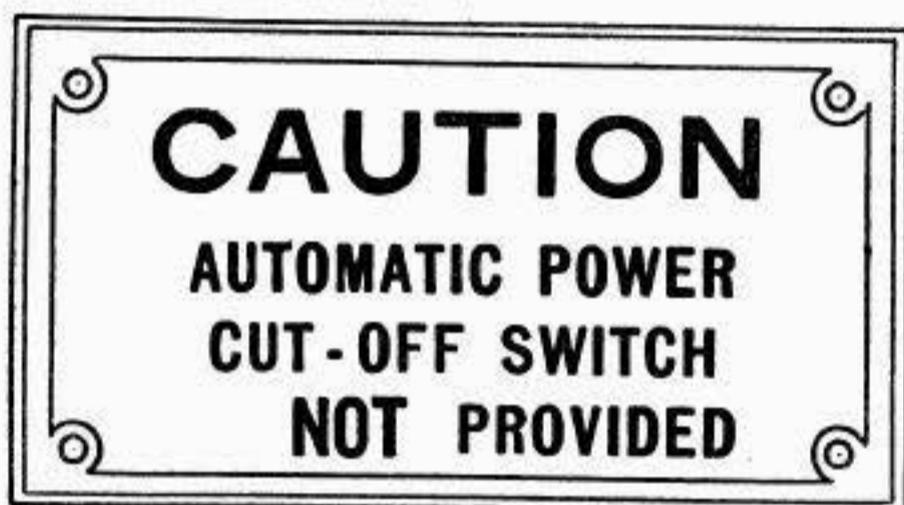

Fig. 8—Caution Label
7.03 At locations where such TTY stations are maintained by the Telephone Company on a recurring basis and the rectifier is not provided with the cover disconnect switch, it is suggested that the rectifier be equipped with a nameplate Form E-3244 (Fig. 8). The nameplate should be firmly attached to the rectifier case and in a position where it can be seen by any one who may have occasion to work on the rectifier.